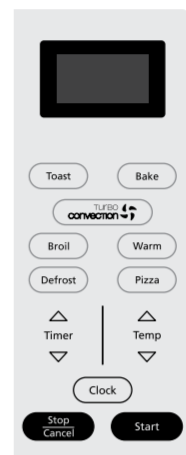

FIGURE 2
**Function Buttons** – (See Figure 2)